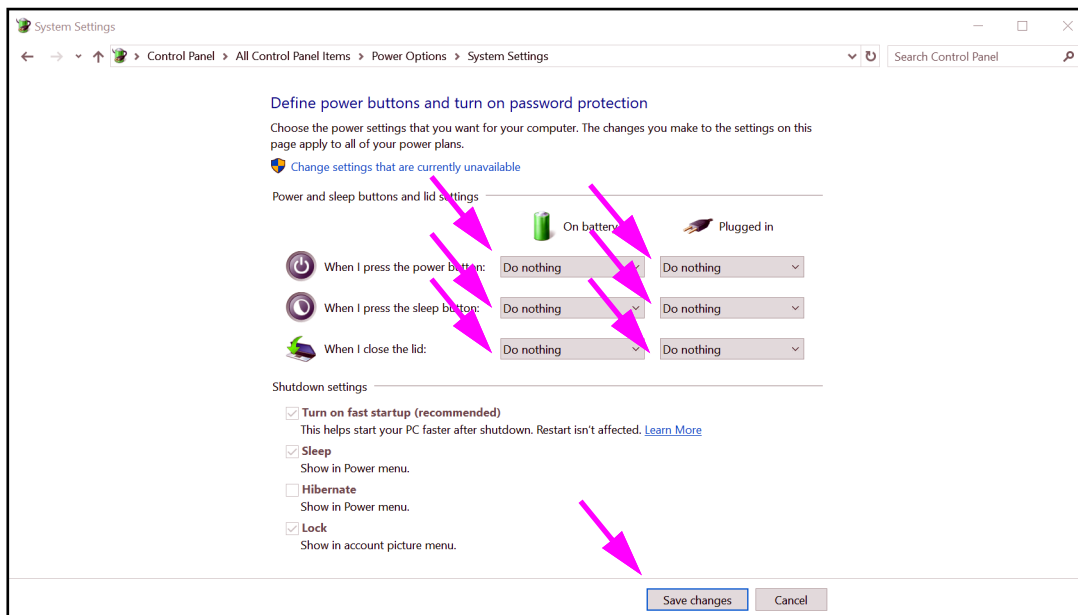

Figure 2-20. System Settings Window
10. **Laptops Only:** On the Power Options window, click the **Choose what closing the lid does** entry. The System Settings window appears (see Figure 2-20). Set all settings to **Do nothing** and click **Save Changes**.